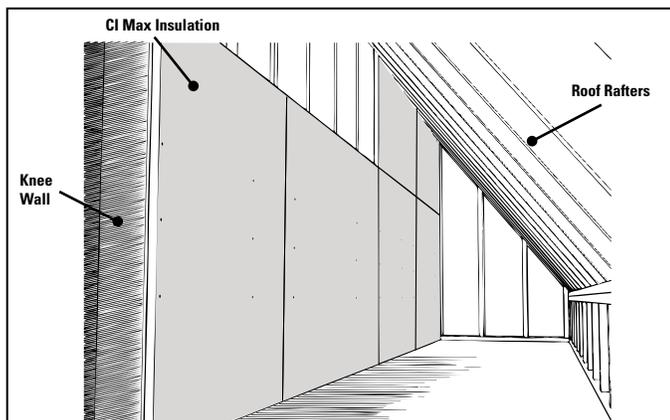

Figure 2. Knee wall installation of CI Max boards
- Use maximum board lengths to minimize number of joints. Locate joints square to framing and center end joints over framing (as shown in Figure 2). Provide additional framing as necessary. It is not necessary to stagger board joints.